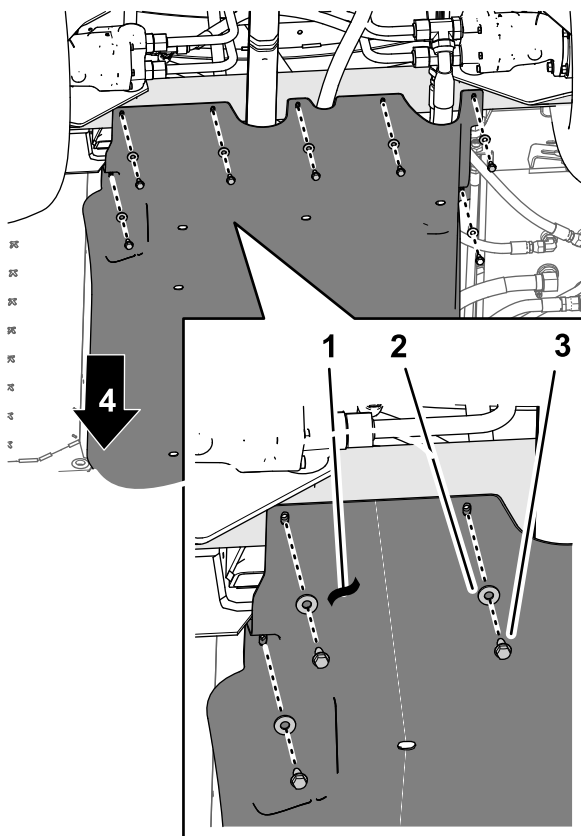

Figure 66
4. Align the holes in the rear part of the undercarriage shroud with the holes in the chassis (Figure 66).
5. Assemble the rear part of the undercarriage shroud to the chassis (Figure 66) with the hardware that you removed in step 1 of Removing the Undercarriage Shroud \(page 4\) as follows: